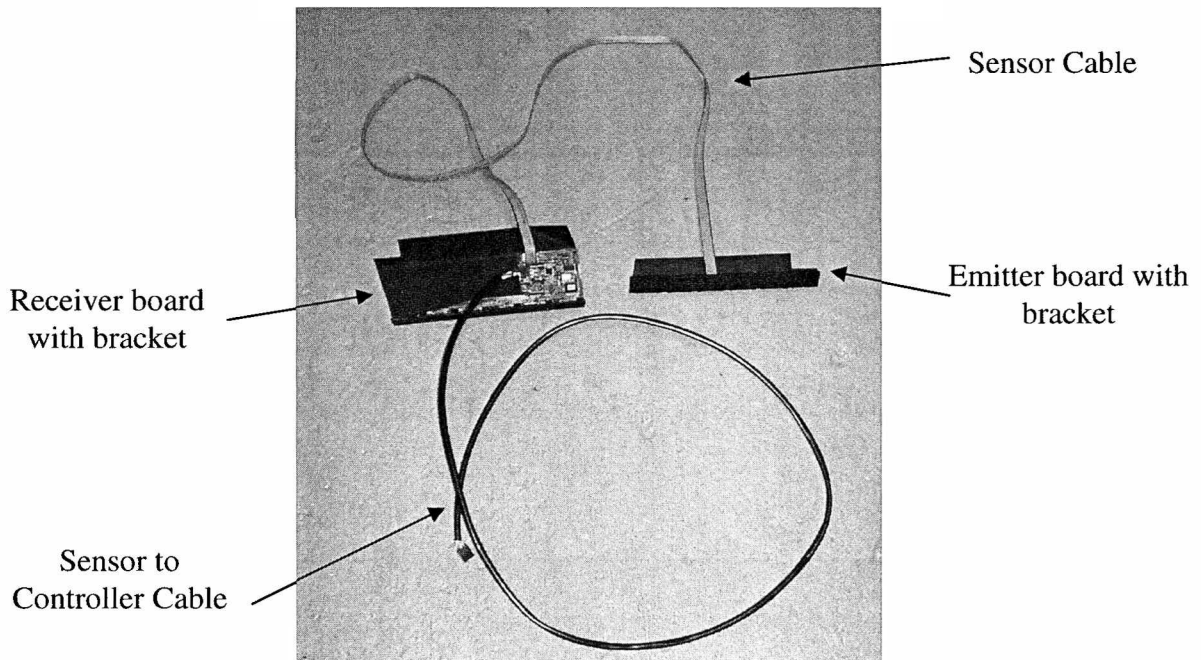

Figure 1.
1. Locate the Sensor kit within your VMC Retrofit kit. This will contain two boards mounted on brackets connected to each other by a ribbon cable. Another cable will be attached to the larger of the two boards. See Figure 1.